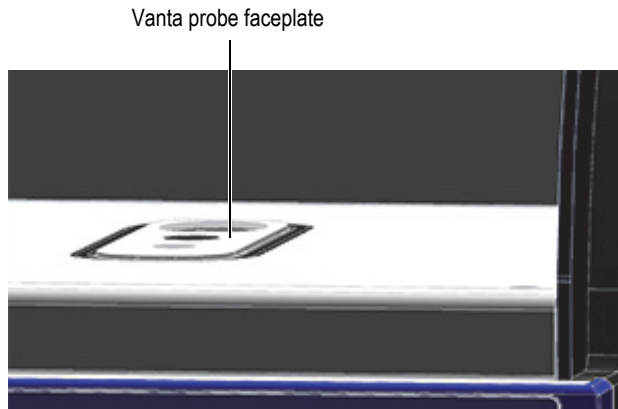

Figure B-14 Vanta probe faceplate level with Work Station chamber floor
2. Check to ensure that the Vanta probe faceplate is level with the Work Station chamber floor (see Figure B-14 on page 118).